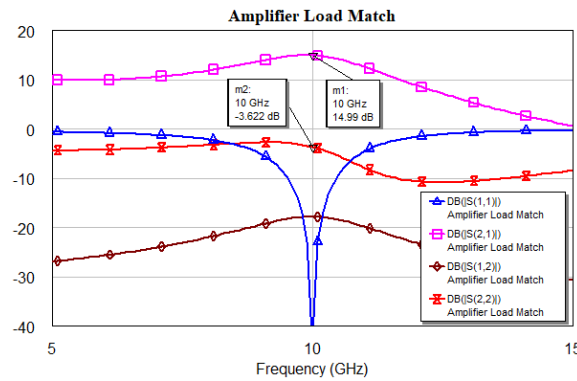

Fig. 12 Resulting S -parameters of the amplifier.
- Compile the resulting amplifier using sub-circuits. The resulting parameters of the final amplifier can be seen in Fig. 12.